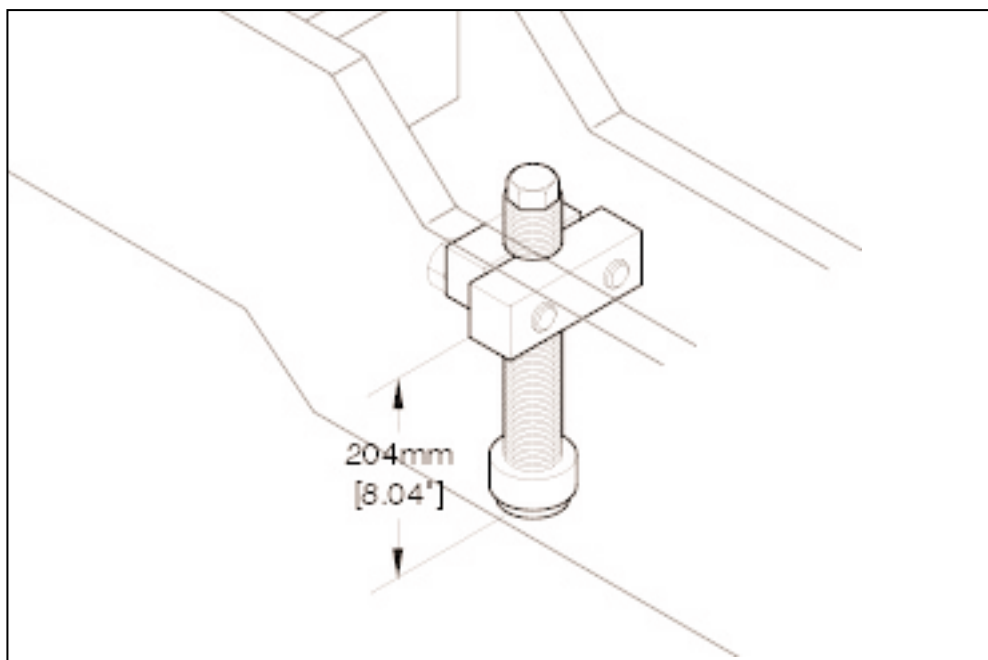

Figure 4.34 ADJUSTING STRIPPER HEAD SHOCK ABSORBERS
4.3.4 Adjust the stripper head shock absorbers to a dimension of 3 5/16" [192mm] from the bottom of the clamp blocks to the bottom of the rubber pads (see figure 4.34).